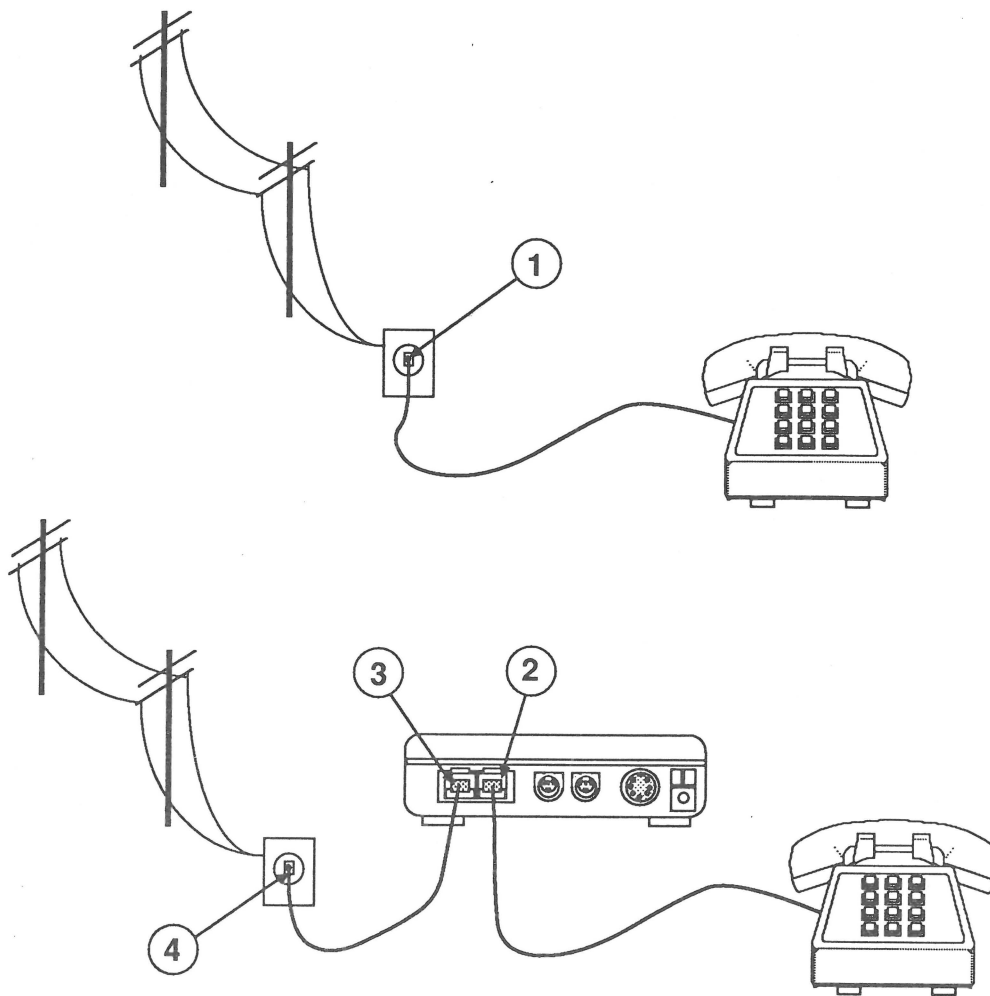

FIGURE 2
1. Locate a working telephone that has a modular connector where the telephone cord meets the telephone jack (Figure 2, #1). Lift the receiver and verify that a dial tone is present.
2. Disconnect the telephone cord from the telephone jack (Figure 2, #1) and connect it to the modem telephone jack (Figure 2, #2).
3. Connect the modem phone cord to the phone line jack on the modem (Figure 2, #3) and to the telephone jack (Figure 2, #4).